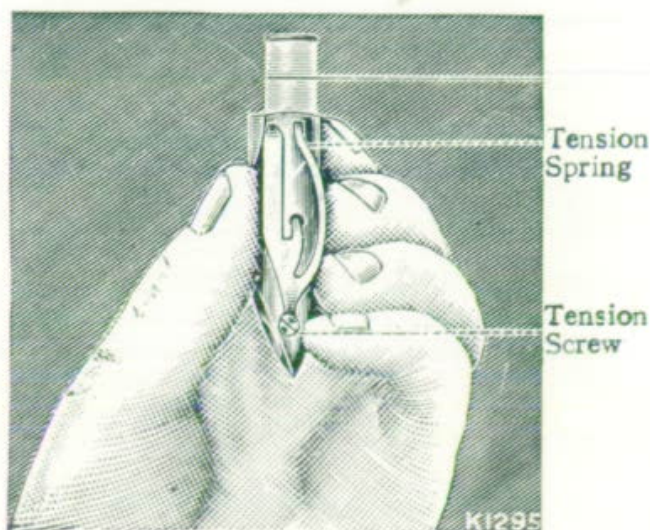

Fig. 7.
Hold the shuttle, as in Fig. 7, and insert the bobbin so that the end of the thread draws from the left towards the right, as shown in the illustration.
*NOTE.*—Keep the inside of the shuttle and under the tension spring (see Fig. 7) free from accumulation of lint or dust.
As all machines are correctly adjusted before leaving the factory, the under tension seldom requires to be altered, but if this becomes necessary tighten the screw near the point of the shuttle (see Fig. 7) to increase the tension, or loosen it slightly to lessen the tension.